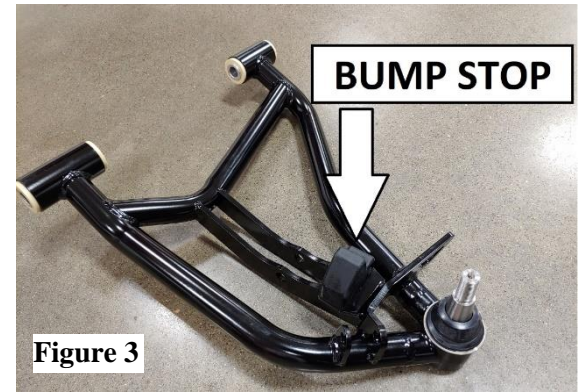

Figure 2
16. Install the new QA1 control arm in the frame and insert the included pivot bolts with the threads facing each other. **(Figure 2)** Torque to 90 lb. ft.